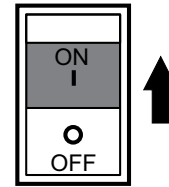

Figure 45. Circuit Breaker ON (GFCI Test)
4. Place the main circuit breaker (Figure 45) in the **ON** position.